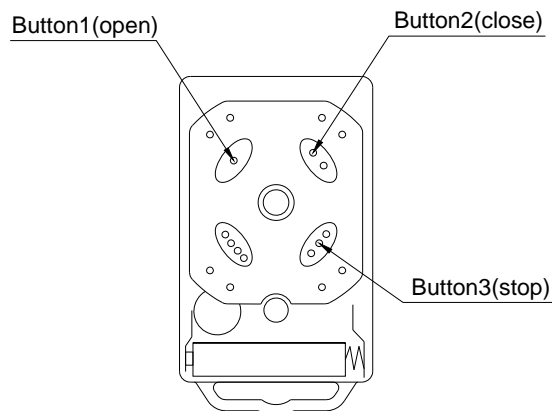

Fig.3
- The remote control works in three-channel mode, (button 1-open the gate, button 2-close the gate, button 3-stop the gate) See Fig.3.